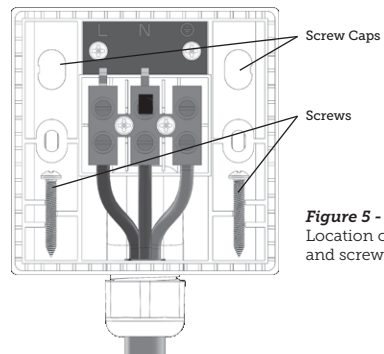

Figure 5 - Location of screws and screw caps
6. Secure the Splash Proof Connector to the junction box using the screws provided. The screws and the screw caps can be found at the back of the connector. (Fig. 5)